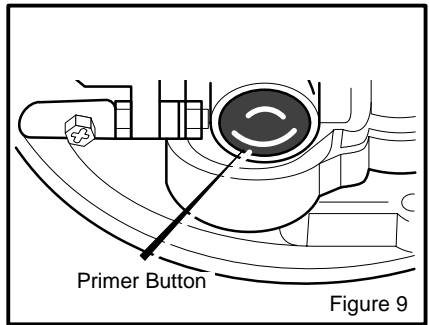

Figure 9
4. The **primer button** is on the side of the engine (Figure 9). Push the **primer button**. Every time you push the **primer button**, wait two seconds. For the number of times required to push the **primer button**, see the engine manufacturer's instructions.